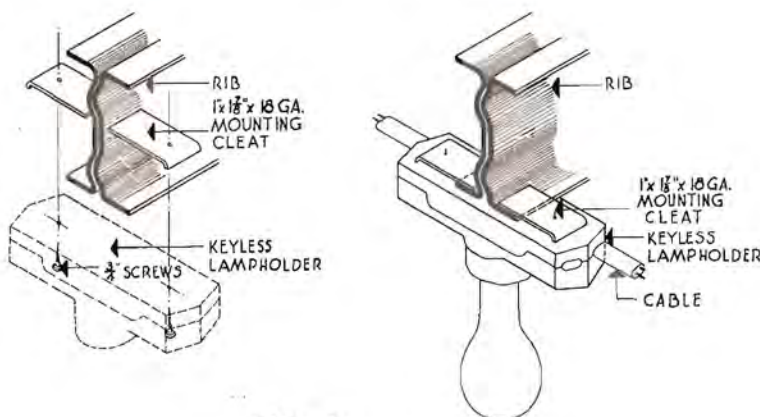
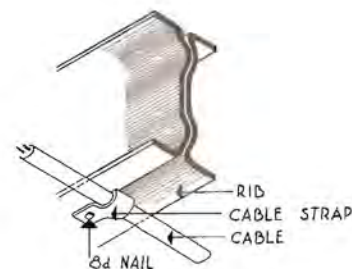

FIG. 6
FIG. 7
7. Electrical work is installed as described on pages 22 and 23. Since the ribs are exposed in the top portion of the hut, secure the lampholders directly to the ribs by means of the metal mounting cleats included in the electrical kit. (See Fig. 6.) Eliminate the cable clamps at each end of the socket and nail the intermediate cable clamp directly to the rib. (See Fig. 7.)